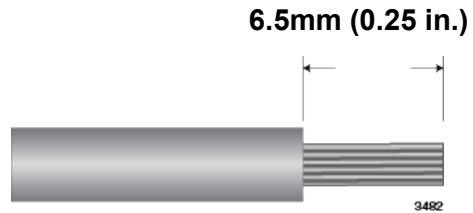

Figure 48. Stripping a Power Cable Wire
1. Strip 6.5mm (0.25 in.) of insulation from the ends of the stranded power wires with a wire insulator stripper. Refer to Figure 48.